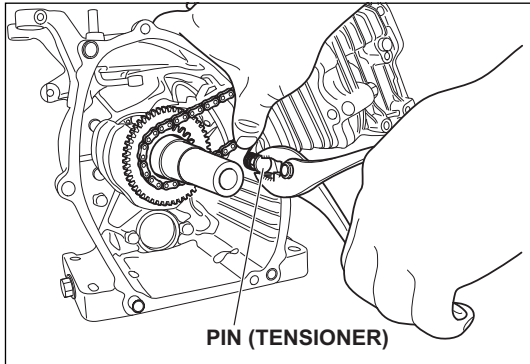
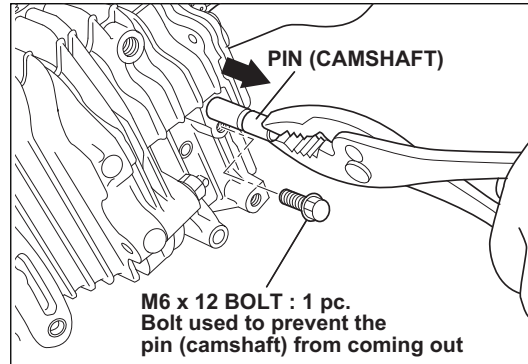
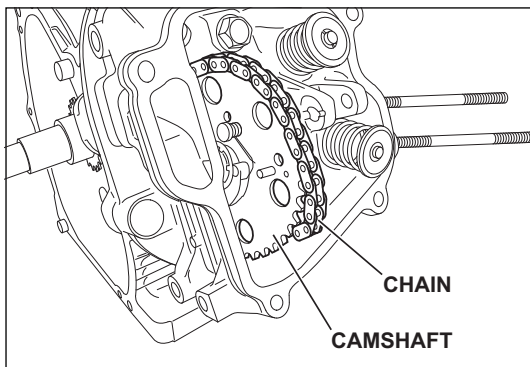

Fig.5-20
Fig.5-21
Fig.5-22
| 23 | Tensioner, Camshaft | <ol style="list-style-type: none"> (1) Remove the tensioner. (See Fig. 5-20) Do not lose the pin (tensioner). (2) Remove the retaining bolt of pin (camshaft) from the cylinder head. (See Fig. 5-21) (3) Remove the pin (camshaft), taking care not to scratch the O-ring. (4) Remove the chain from the camshaft sprocket and then take out the camshaft. (See Fig. 5-22) (5) Remove the chain from the crankshaft. | M10 box spanner or spanner M6 x 12mm : 1 pc. Pliers |